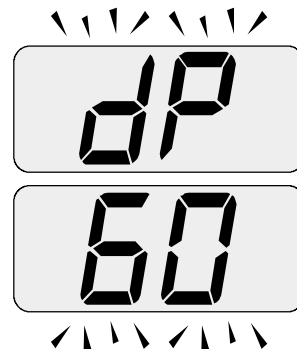

Fig. 11.9
- 20 Press further key A to vary again the output in chimney sweep mode: when the display shows the letters **dP** that alternate with the heating water temperature value (e.g. **60**), the "chimney sweep function" is at maximum output in domestic hot water mode" (Fig. 11.9);